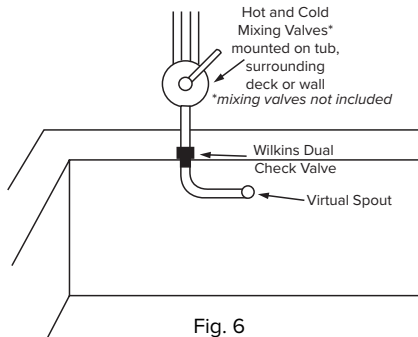

Fig. 6
2. Connect mixed supply line to the Wilkins dual check valve (Fig. 6).